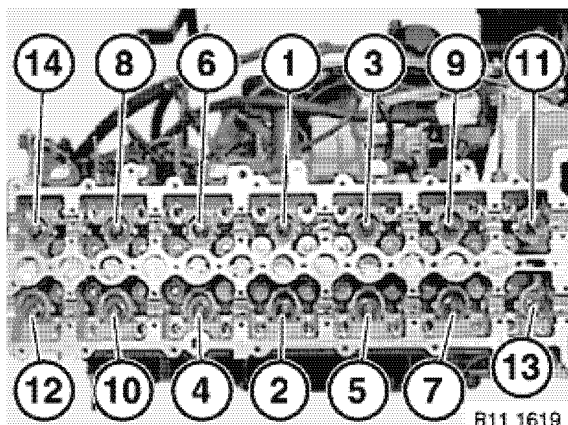

Figure 5-18
22. **6BY3 Engines:** Remove cylinder head bolts in reverse sequence, beginning with number 14 (Figure 5-18).